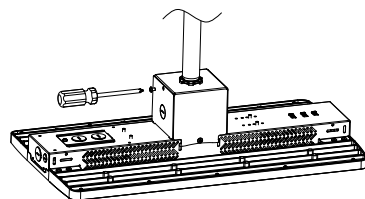

Figure 5
Step4 Lock side brackets with screw driver (Figure 5).